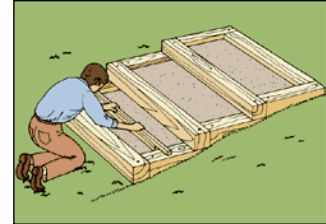

Figure 6
- a. Line the area inside each set of timbers with non-woven geotextile fabric. Make sure the fabric is long enough to extend a few inches up the sides of the timbers (figure 6).